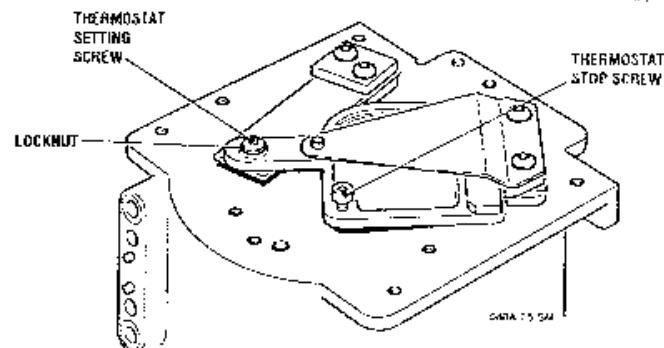

Fig. 3.35 Thermostat Stop Screw And Adjusting Screw Adjustment
3. Observe the manometer and adjust the thermostat stop screw illustrated on Fig. 3.35 until the correct nominal pressure of 227 +0 -10 mm H2O is indicated.